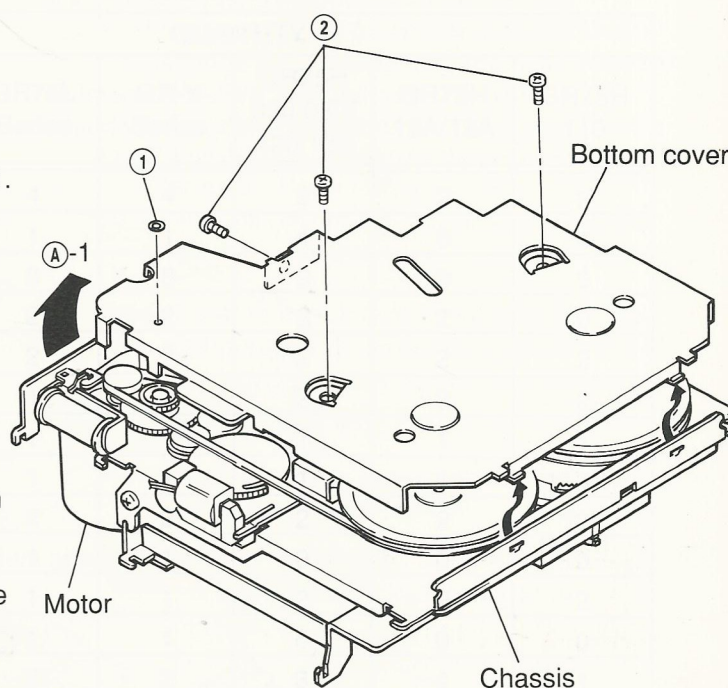

Figure 1
- (1) Turn the mechanism around as shown in Figure 1.
- (2) Remove M1 lock washer ① as shown in Figure 1.
- (3) Remove three screws ② as shown in Figure 1.
- (4) Lift the bottom cover slowly from the position ①-A-1, pull the hooks out of the holes in the chassis, and remove the bottom cover as shown in Figure 1.